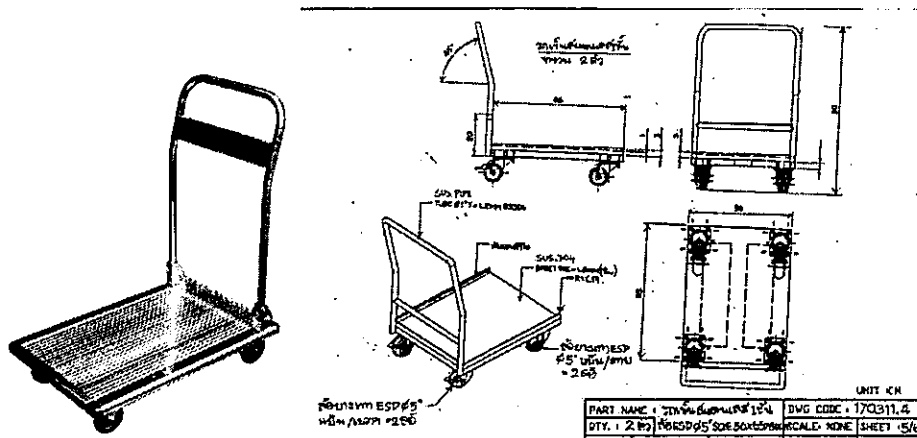

Figure 20: Example of single-tier stainless steel cart*
- 5.6 Single-tier Stainless steel cart with dimensions greater than or equal to 65 cm long x 50 cm wide x 90 cm height from floor to handle 90 cm with ESD-Safe grey rubber tires (example in Figure 20) (2 sets)